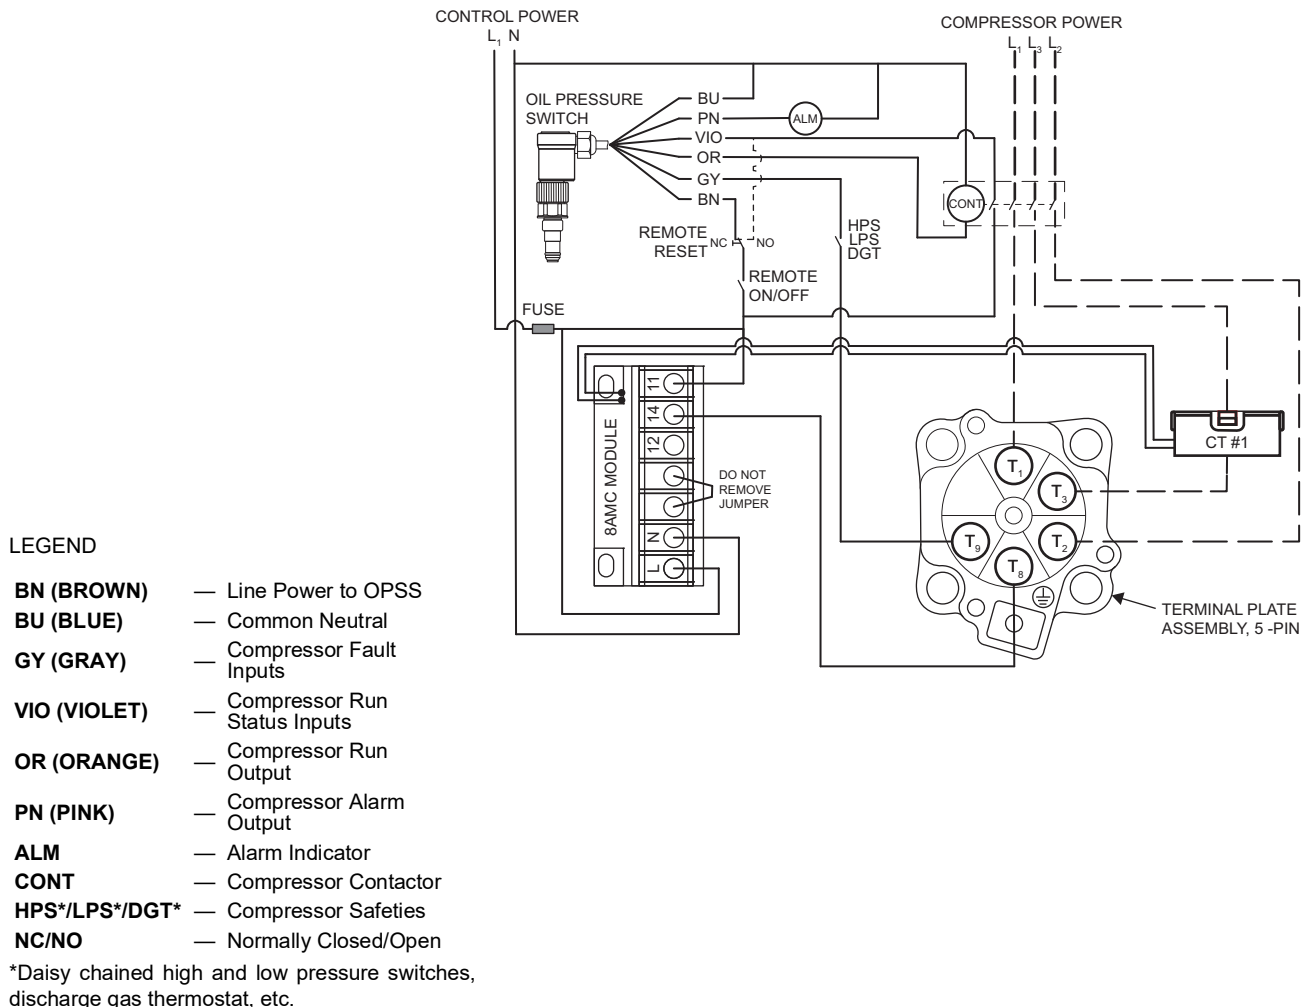

Fig. 2 — Electric Wiring for Fixed Speed 06M Models
Consult the wiring diagram located inside the compressor terminal box cover and Fig. 2 or 3 for the correct terminal plate and overloads with proper wiring connections.
See Fig. 2.
3. Make motor power connections from the contactor to the terminal plate as shown in Fig. 2. See “Terminal Plate Wiring” on page 6 for connection details.